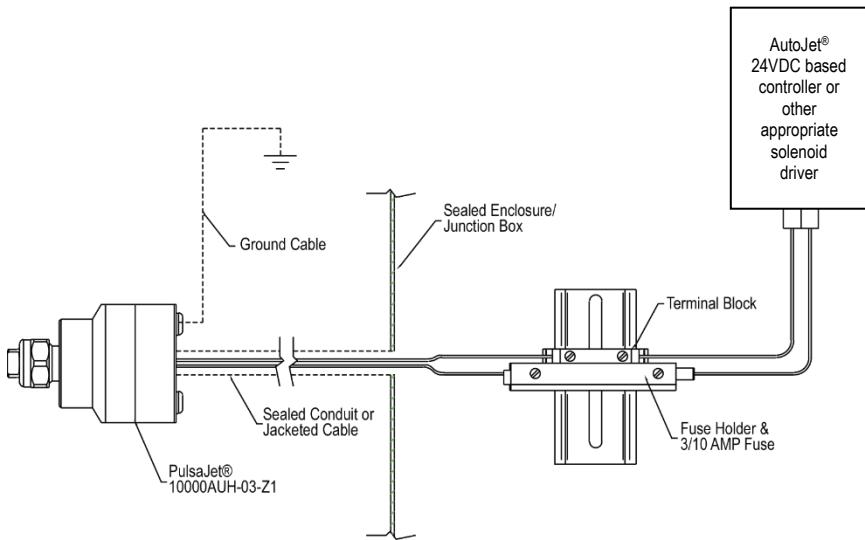

FIGURE 1 – ELECTRICAL
Electrical conduit connection for conduit fitting accepts 1/2" NPT (M) for NPT version. The conduit must protect the electrical cable from mechanical damage and terminate in a sealed enclosure or junction box appropriate for the hazardous location. For BSPT version, an Ex d rated cable gland is used with cable. The fuse holder and a 3/10-amp fuse should be used as shown in Figure 1. The ground connection of the Pulsajet® 10000AUH-03-Z1-EPFC must be attached to a true ground.